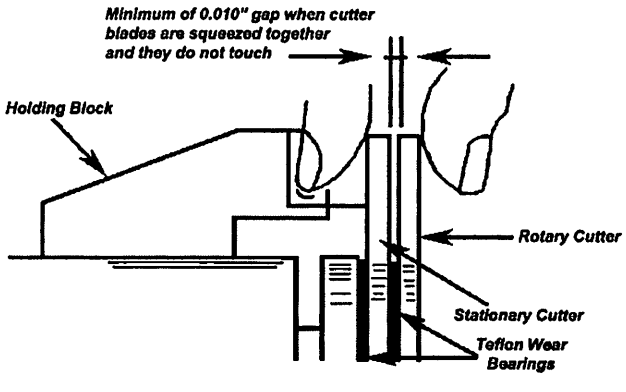

Figure 1
- Fig. 1: When the blades do not touch and light can be seen between them, it indicates that the bearings have not worn completely. A clearance of approximately 0.010" between blades assures that bearing replacement is not necessary.